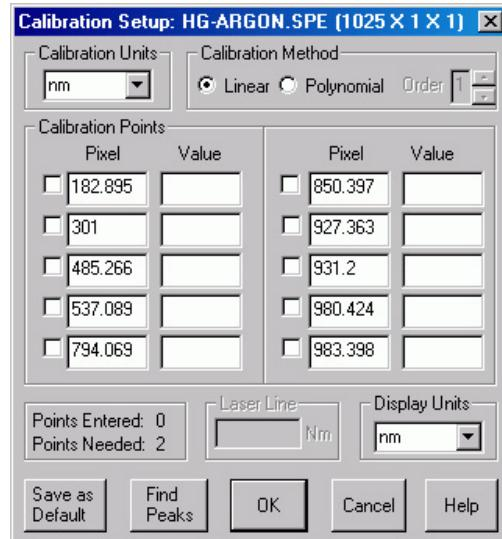
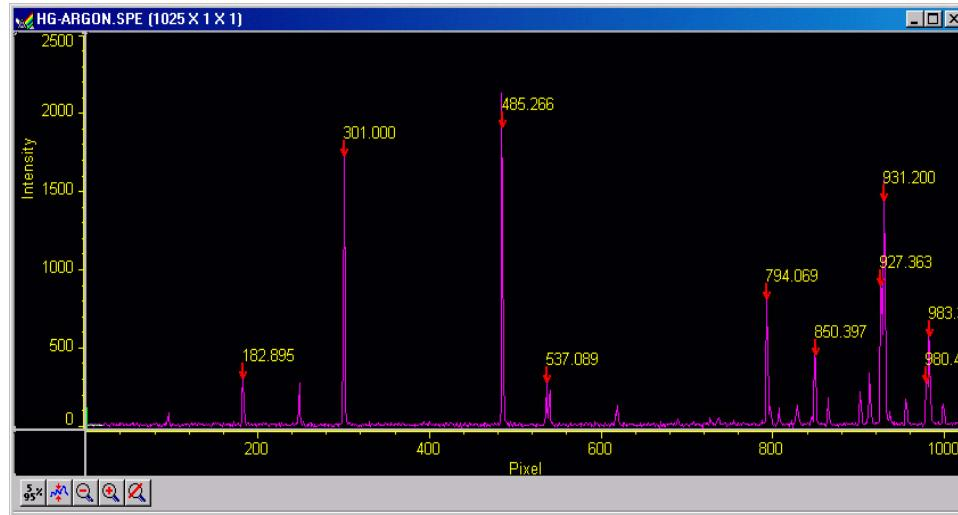

Figure 61. Calibration Setup dialog box after running Find Peaks routine on Hg-Argon spectrum
Figure 62. Spectrum after running Find Peaks routine
2. Click on **Find Peaks**. An automatic peak finding routine will be performed. The *maximum* number of peaks is equal to one quarter the number of displayed pixels. The pixel values for the 10 highest peaks will be shown in the Pixel boxes in the Calibration Setup dialog box as shown in Figure 61. Note that the Find Peaks routine causes a small red arrow to be displayed above each peak found in the spectrum together with a notation indicating the peak location in pixels (Figure 62).